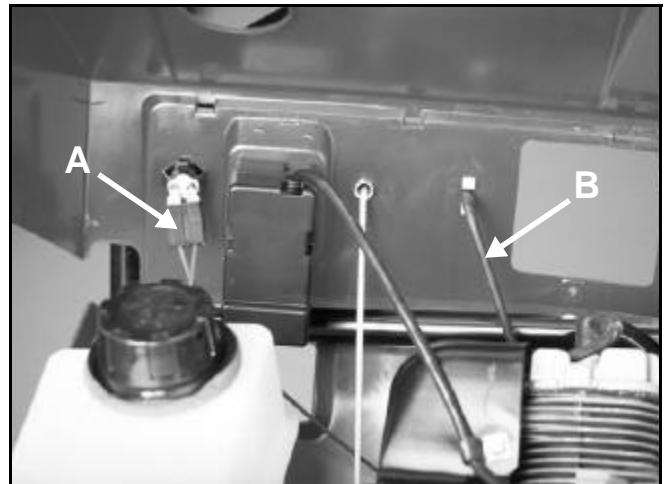

Figure 133 1854-06
5. Lift upper shroud up and remove the wires to the key switch (Figure 133).
7. Disconnect the primer hose to the primer bulb (Figure 133).